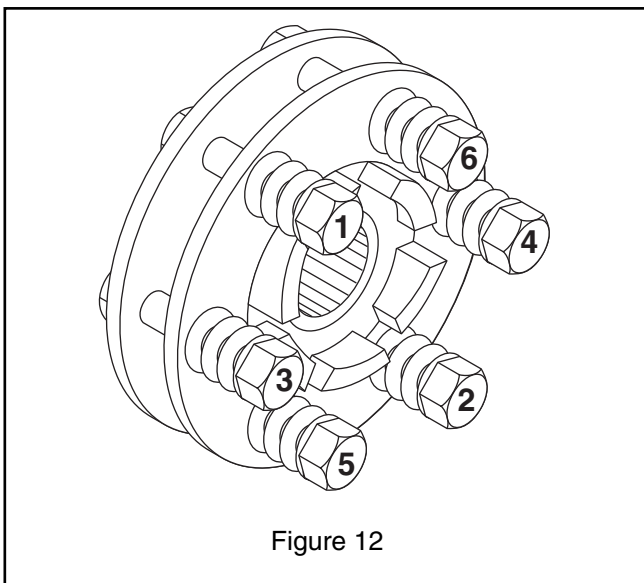

Figure 12
12. Torque bolts to 70 in. lbs. in two stages. First tighten bolts to 20 in. lbs. in pattern shown (Figure 12). Then tighten to 70 in. lbs. in same pattern.
**NOTE:** Do not tighten the bolts in a circular sequence, that is, by tightening the bolt next to one which was just tightened. The bolts should be tightened in a cross sequence, that is, by tightening one bolt, then tightening the bolt which is across from it on the plate. Continue tightening the bolts in this sequence until all the bolts are tightened. (Figure 12)